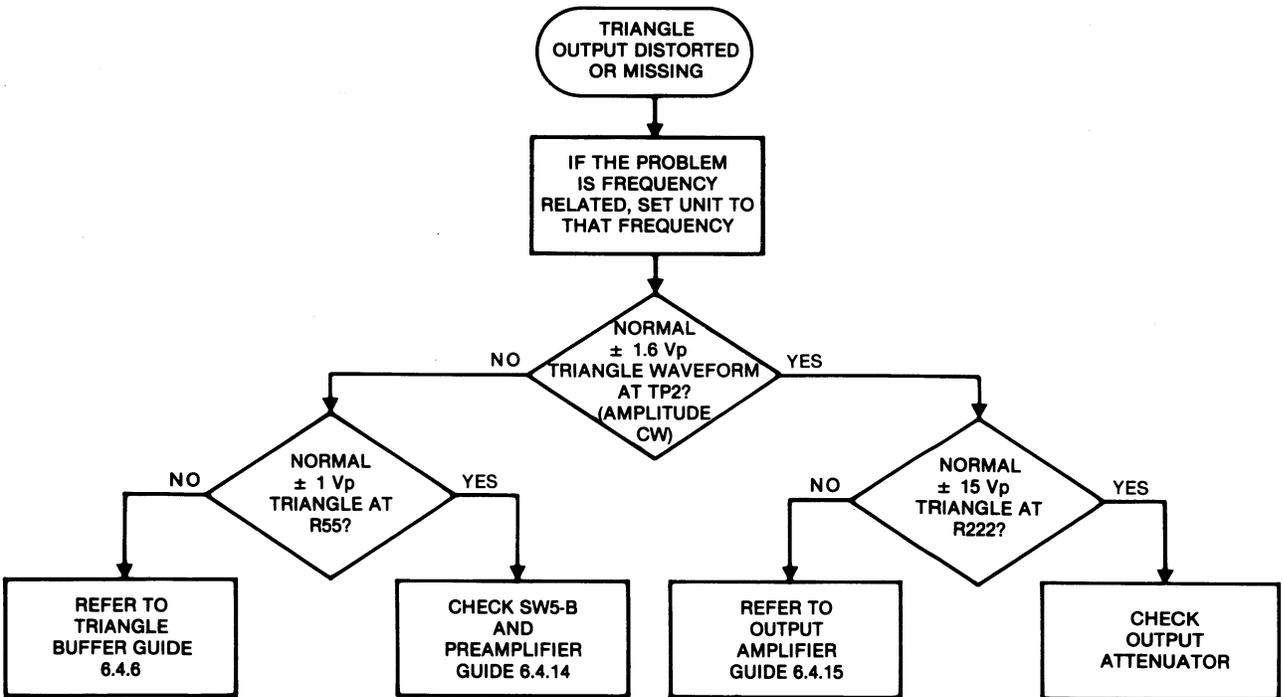

Figure 6-4. Triangle Output Troubleshooting
5. If none of the above conditions apply, refer to figure 6-4.